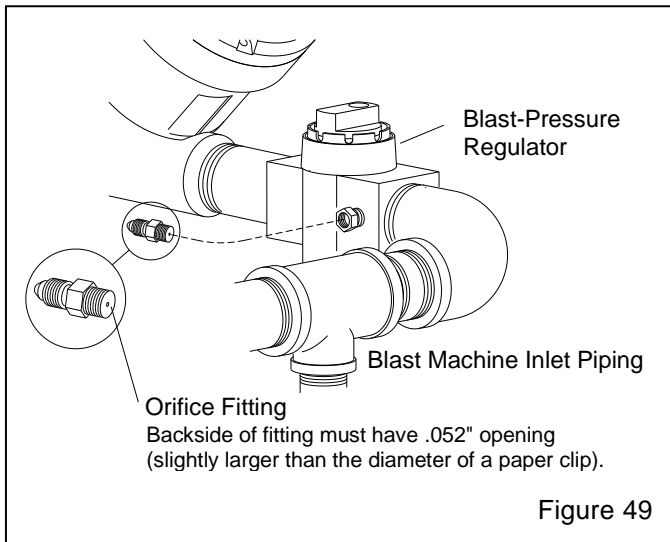

Figure 49
8.6.4 Check for air escaping through the opening under the control handle lever. If no air is escaping, the orifice fitting on the blast-pressure regulator (shown in Figure 49) is blocked, or the line from the orifice to the control handle is blocked and must be cleared.
8.7.6 Check the orifice fitting on the blast machine's blast-pressure regulator (shown in Figure 49). The orifice on the 1/8-NPT end of the fitting (the end that threads into the bushing on the regulator) must have a 0.052" opening. A full port fitting will cause the remote controls to malfunction.